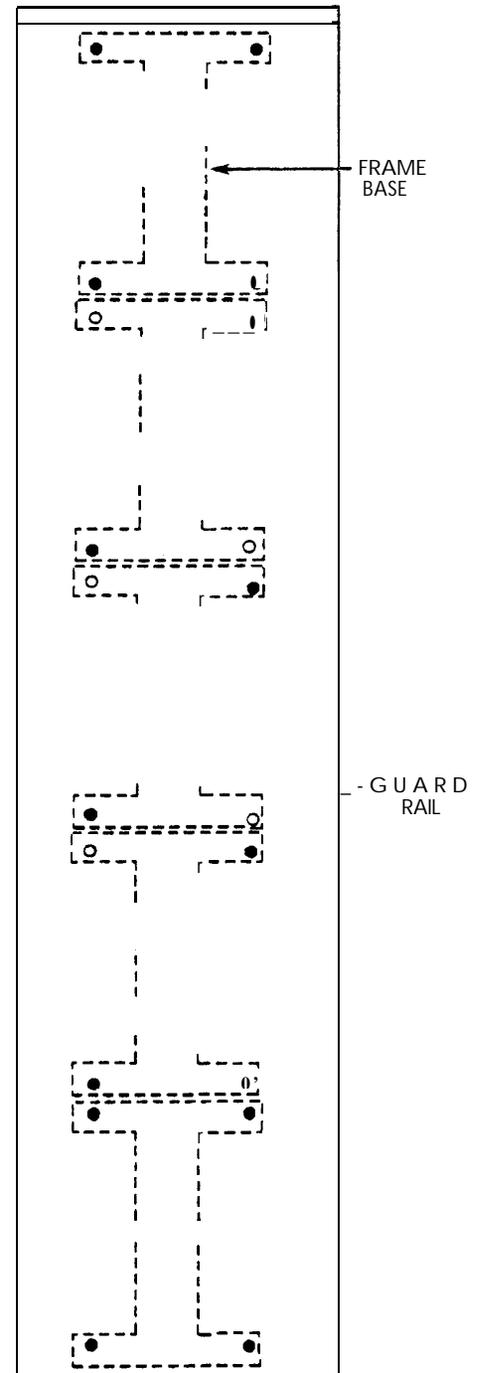

Figure 8. Anchor Locations for Frames Within a Lineup in Non-earthquake Zones.
- (h) Each EAX frame in every lineup between the two end frames must be supported by two anchors (one in the upper left-hand corner of one foot and one in the lower right-hand corner of the other foot. (Refer to Figure 8.)
frame. (Refer to Figure 8.) Earthquake zones are defined in Section 780-740-070. In some cases, a manufacturer will include a different type of floor anchor as part of an equipment installation package. Do not use if they are not J-38 Red Head Expansion Anchors. Observe the following: